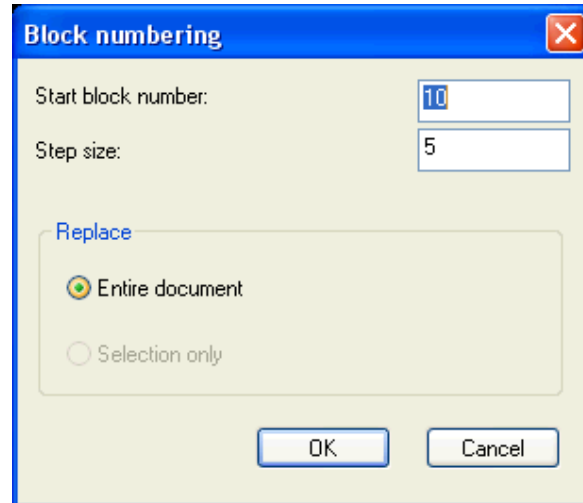

Fig. 2.26: Block Numbering
- o Change the start block number and the step size, then click “**Ok**”. This will change your blocks’ numbers. Fig. 2.26